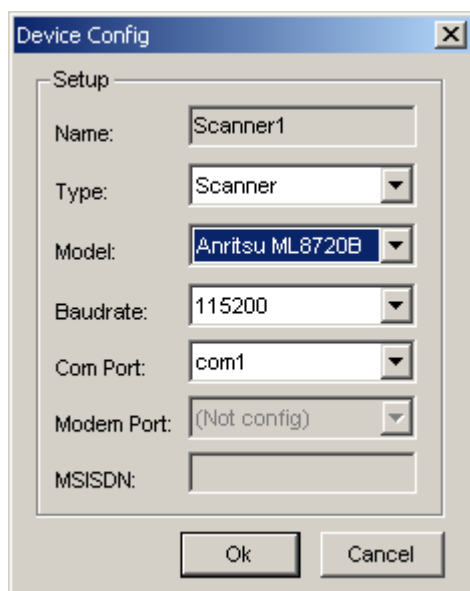

Figure 7-4 Model drop-down list
- 1) Choose **Scanner** in the **Type** drop-down list, as shown in Figure 7-4.